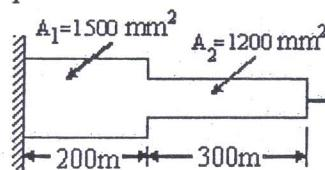

Figure.7
b) Consider axial vibration of the steel bar shown in Figure.7. i) develop the global stiffness and mass matrices and ii) determine the natural frequencies and mode shapes using the characteristic polynomial technique. [15]